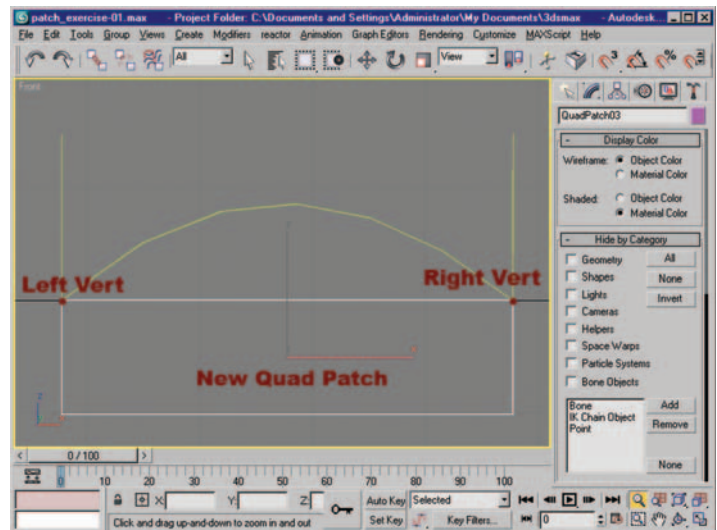

Figure 2.27 New Quad patch and highlighted vertices from step 6.
6. In the front viewport, zoom in to our mesh and, using it as a guide, create another Quad patch stretching from the left side vert to the right side vert. Give it a little bit of height; for this just use your own judgment (Figure 2.27).